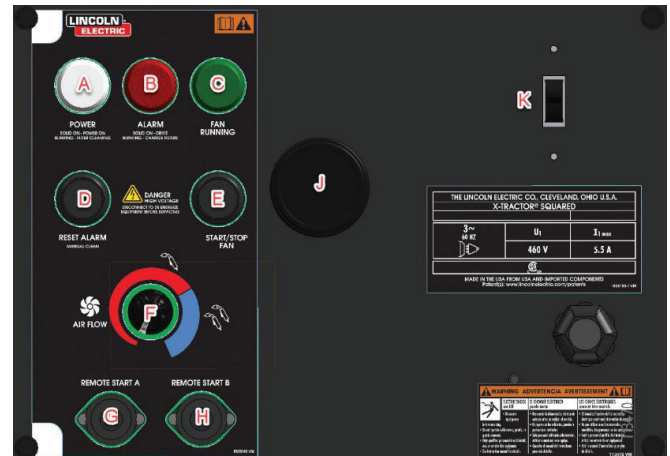

FIGURE B.1
1. Start up the machine by flipping the main on/off toggle switch (see Figure B.1, item K), located on the front side of the machine. The white power light will illuminate (see Figure B.1, item A).
2. Press the fan start/stop button to start the fan (see Figure B.1, item E). The green fan light will illuminate (see Figure B.1, item C).
4. The alarm reset/manual clean button (see Figure B.1, item D) can clear VFD faults, shown by a blinking alarm light (see Figure B.1, item B). It can also force a cleaning cycle to initiate by pressing and holding for 6 seconds.
The remote start A and B connections (see Figure B.1, item G & H), can be used in conjunction with the Current Activated Start/Stop Sensor accessory to automatically start and stop the fan when the work cable of the welding machine is positioned in the accessory clamp. The unit continues to operate for 25 seconds after welding is completed before automatically shutting off.
Automatic filter cleaning will not take place if the power is switched off using the main on/off toggle switch (see Figure B.1, item K).
When the pressure across the filter exceeds 5 inWG (1245 Pa), and after the fan is shut off via fan start/stop button (see Figure B.1, item E), a filter cleaning cycle will be initiated in order to optimize filter efficiency. After 20 seconds of turning the fan off, the filter is cleaned with a series of 2 compressed air blasts, 20 seconds apart. For a total cleaning cycle time of approximately 1 minute.
1. Press and hold for 6 seconds alarm reset/manual clean button (see Figure B.1, item D) to activate the filter cleaning cycle. This procedure takes approximately 2 minutes, during which the filter cartridges are cleaned by 2 compressed air blasts.